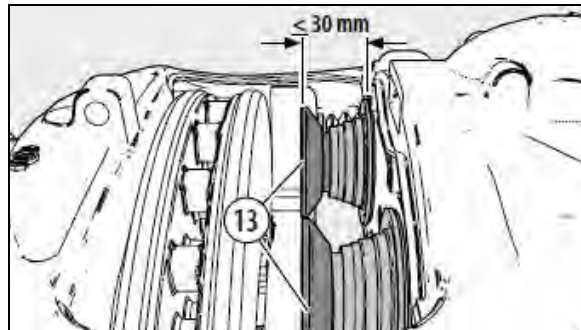

FIGURE 53: SCREW OUT TAPPETS - MAX. 1.181 IN / 30 MM
Screw out the tappets (13) using the shear adapter (6'1) clockwise until the boots are clearly visible (see Figure 53).